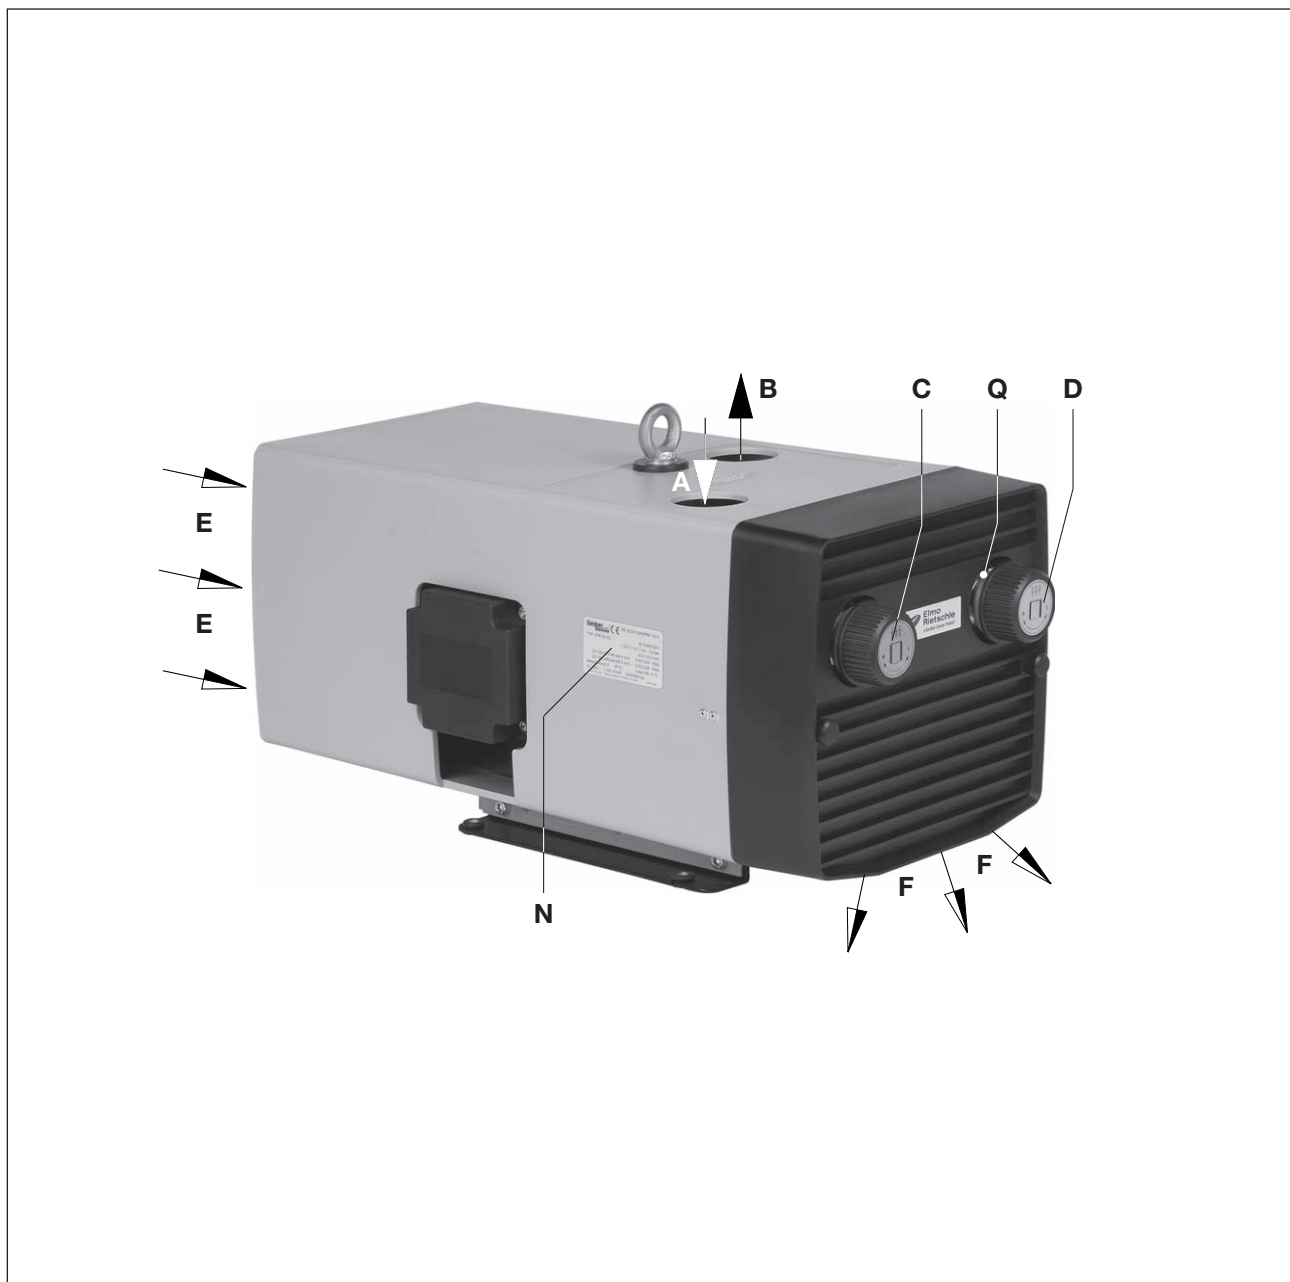
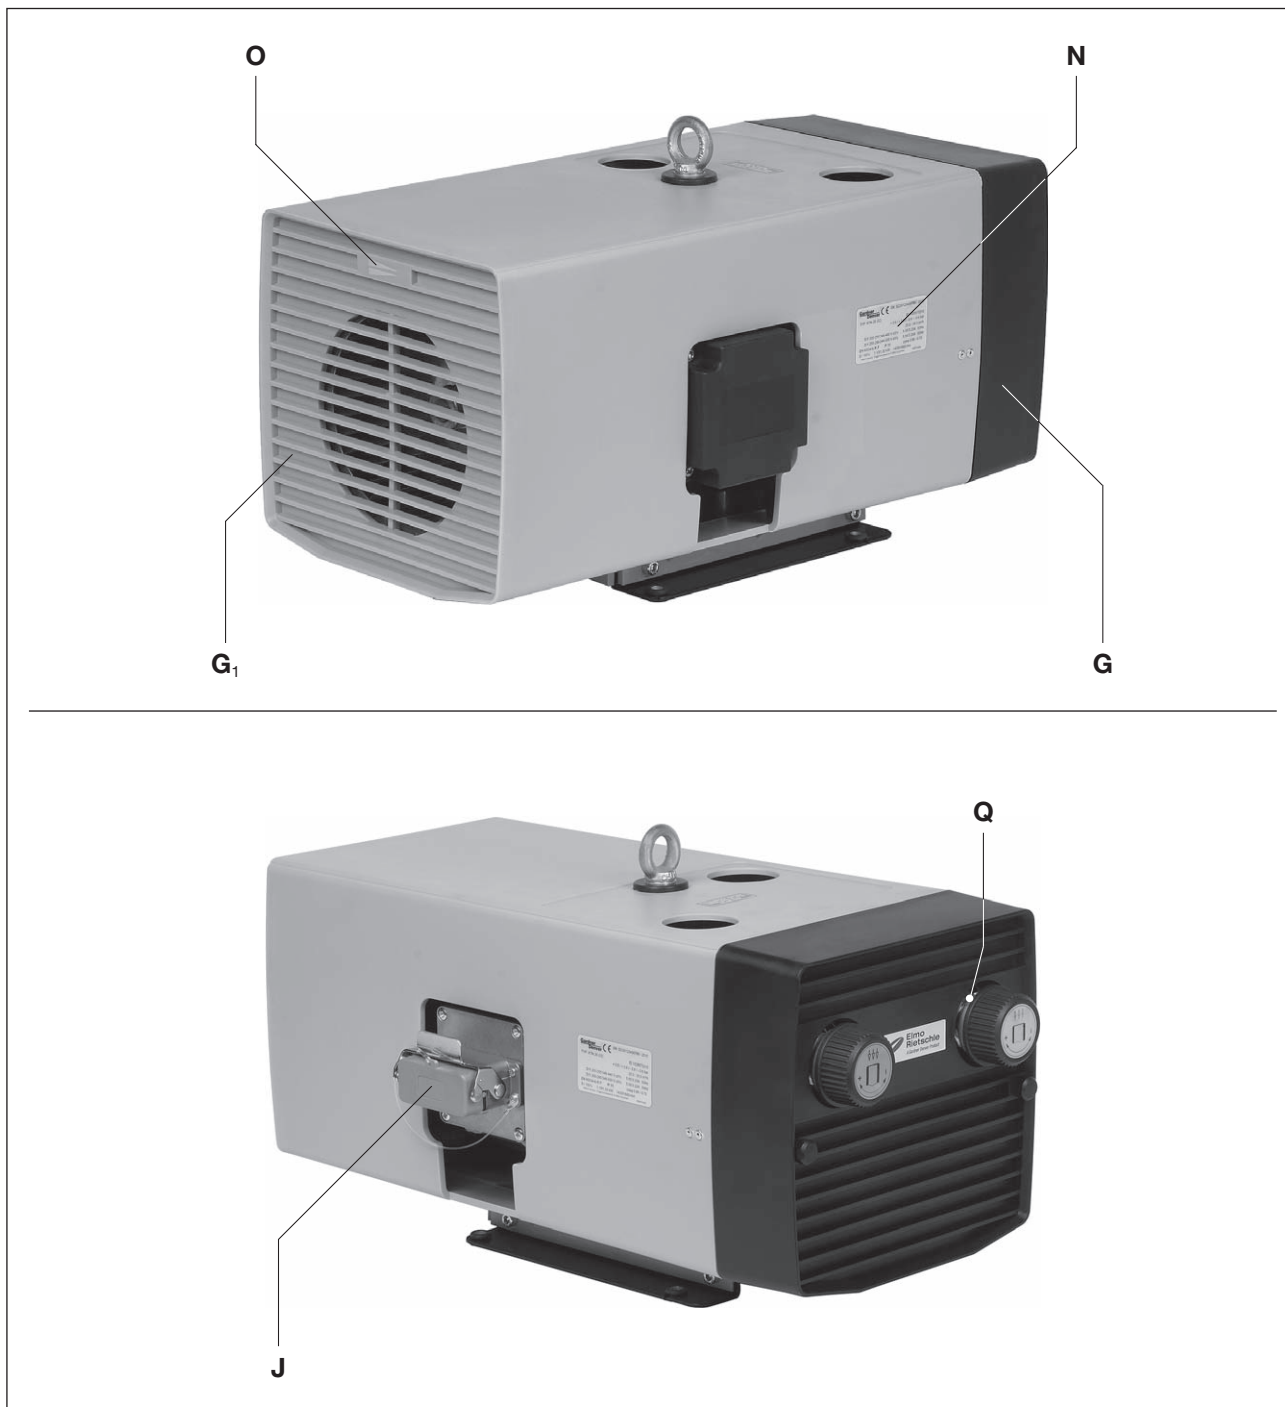

Fig. 2 V-KTN Pressure vacuum pump V-KTN
Fig. 3 Pressure vacuum pump V-KTN V-KTN
The V-KTN are in a plastic sound cover. Inside the sound cover is also a fan that provides cooling. The vacuum regulating valve (Fig. 2/C) and the pressure regulating valve (Fig. 2/D) enable the vacuum and pressure to be set to the required values which have an upper limit.
The nominal flow rate is 15, 25 and 40 m³/h at 50 Hz. The load limits (bars) on the intake and pressure sides are specified on the data plate (Fig. 2/N). Data sheet D 481 shows the dependency of the flow rate on the excess pressures.
To remove the outlet grid (Fig. 3/G) and the inlet grating (Fig. 3/G₁) at least 30 cm of space must be available for maintenance work. You must also ensure that the cooling air inlets (Fig. 2/E) must be at least 10 cm away from the nearest wall (outgoing cooling air must not be sucked in again).
- a) Vacuum connection at (Fig. 2/A) and pressure connection at (Fig. 2/B).
The required pressure and vacuum ranges can be set with the pressure regulating valve (Fig. 2/D) and the vacuum regulating valve (Fig. 2/C) as shown on the symbol plate attached to the rotary knob.
- a) The electrical motor data can be found on the data plate (Fig. 3/N) or the motor data plate. The motors comply with DIN EN 60034 and are in protection class IP 55 and insulation class F. The appropriate connection diagram is located in the motor's terminal box (not for the plug connection version). The motor data must be compared with the data of the existing mains network (current type, voltage, network frequency, permitted current value).
- b) Connect the motor via plug-connector (Fig. 2/J) if fitted or via the motor protection switch (for safety reasons, a motor protection switch is required and the connecting cable must be installed via a cable fitting to provide strain relief). We recommend using motor protection switches with delayed switch off, depending on possible excess current. Temporary excess current can occur when the machine is started cold.
- ▷ The drive shaft direction of rotation is shown by the rotation direction arrow (Fig. 3/O).